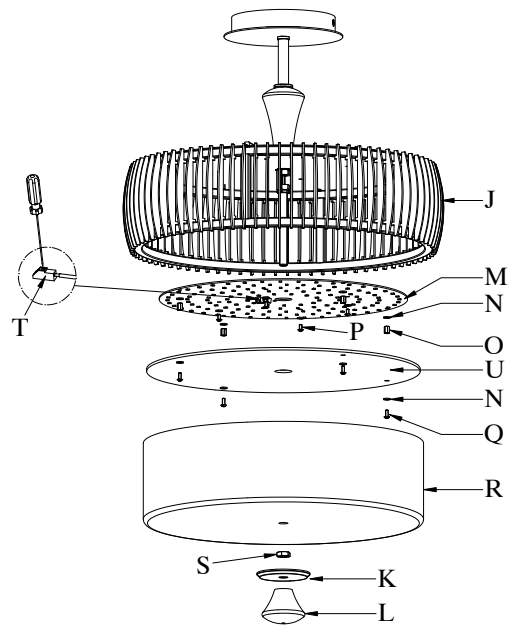

Fig.2
CONNECTING THE WIRES (Fig.2)
6. Connect the electrical wires as shown in Fig.2, making sure that all wire connectors are secured. If your junction box has a ground wire (green or bare copper), connect fixture's ground wire to it. Otherwise, connect the fixture's ground wire directly to the mounting plate (A) using the green screw (B) provided.